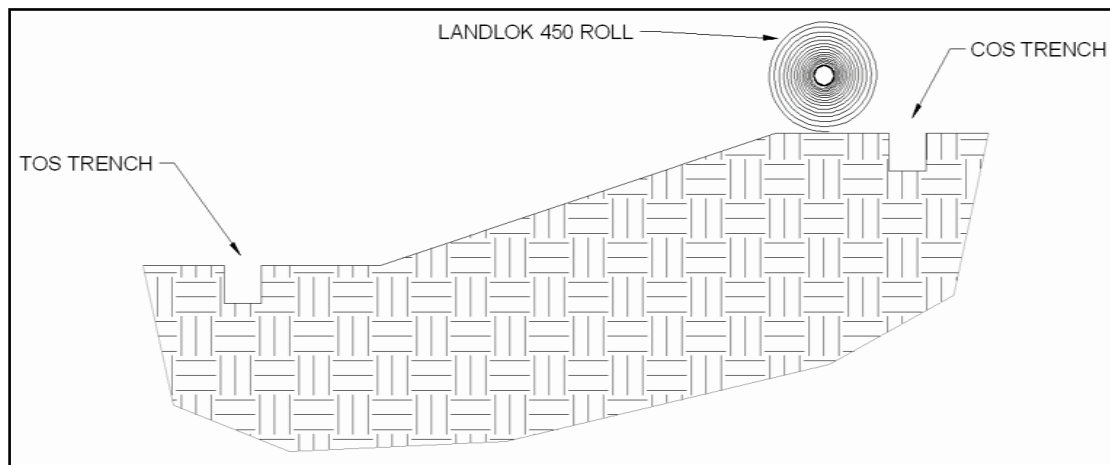
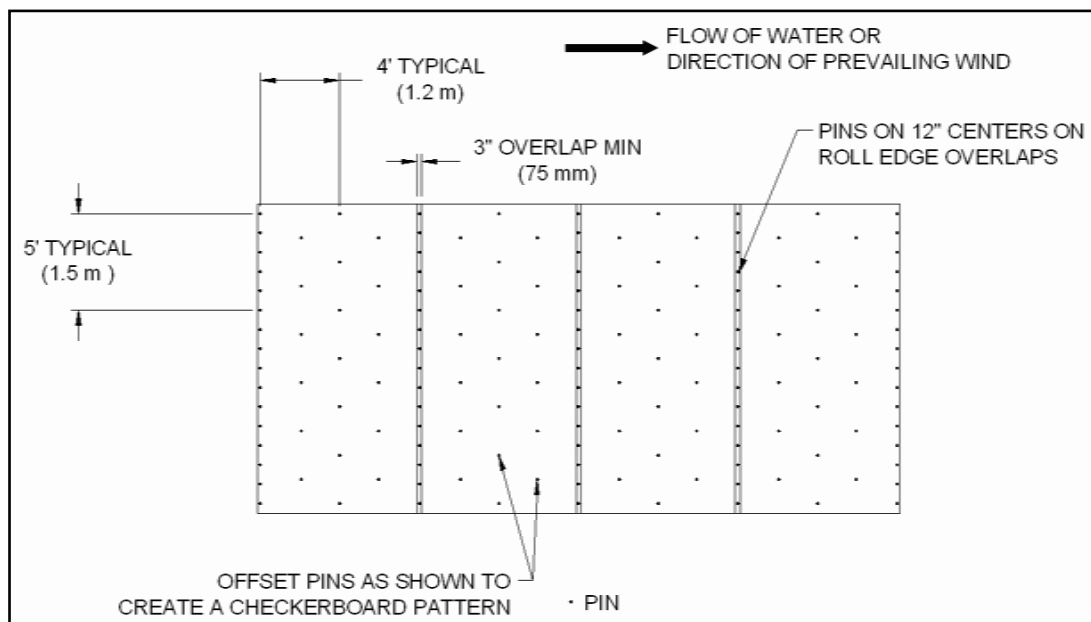

Figure 3: Crest of Slope (COS) Trench Alignment
Figure 8: Example of Panel Overlap
2. Starting at the COS trench, lay Landlok 450 roll so that the roll ends point towards the crest of the slope (Figure 3), with a 3 inch (75 mm) overlap created at adjacent panel edge locations. Ensure that adjacent panel edges maintain a minimum 3 inch overlap during *Landlok 450 laydown*. (Figure 8)
9. Continue to work down the length of the slope by repeating steps 1 through 8 overlapping each adjacent Landlok 450 panel by 3 inches (75 mm) (Figure 8). The last Landlok 450 panel should terminate on the Slope Armoring Edge (SAE) with pins on 12 in (300 mm) centers. At a minimum, Landlok 450 panels should be pinned entirely across the slope surface, pins should be installed in the trenches, and the trenches should be backfilled and compacted at the end of each day to minimize rework in the case of a major rain event. Specific project conditions may warrant further evaluation of installation order for ease.